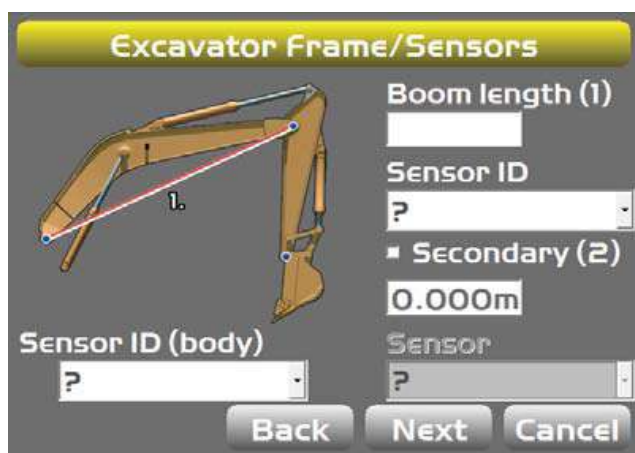

Figure 51: Select Body and Boom Sensor ID
1. Tap **Next** to navigate to the **Excavator Frame/Sensor** screen (Figure 51).